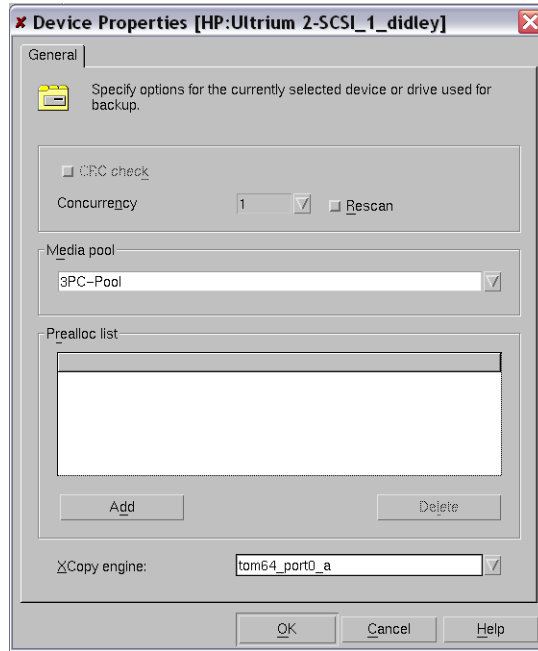

Figure 15: Setting device properties
- While still in the device destination window, highlight the tape drive and click **Properties** (see Figure 15).
- Select the appropriate **Media pool** and **XCopy engine**, then click **OK** (see Figure 15).